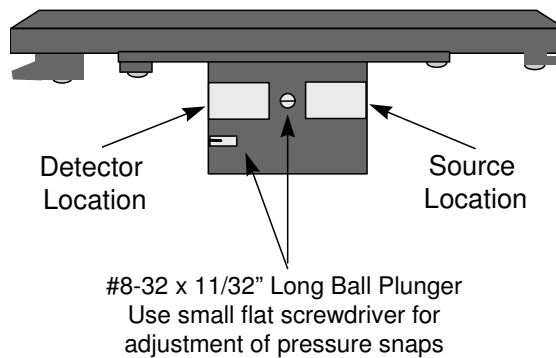

Figure 4: The InfraCal TOG/TPH Analyzer, Model CVH Sample Stage: Front View
Note: The cables do not have to be removed. With a slotted head screwdriver, turn the two (2) pressure snaps (clockwise tightens; counter clockwise loosens) 1/4 turn (see figure 4). Re-insert cuvette and “feel” for proper tightness. Reinstall sample system when proper pressure snap tightness has been achieved for your cuvettes.